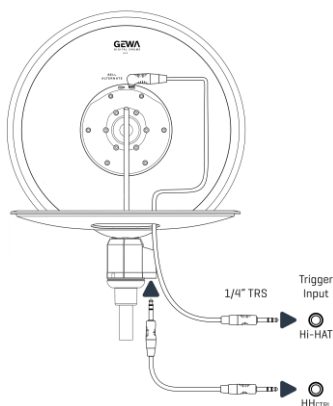

Figure 4
- 1 Take the top cymbal (C) and connect the stereo cable (angled – angled) to the jack "GEWA 3-ZONE" (see Figure 4).
- 5 Connect the straight plug of the Stereo Controller Cable to the Hi-Hat Controller as shown in Figure 4.
- 6 Connect both cables to the corresponding Trigger Inputs of your drum console as shown in Figure 4. The naming convention regarding trigger Inputs might vary from manufacturer to manufacturer, but always offer individual inputs for Cymbal and Controller.